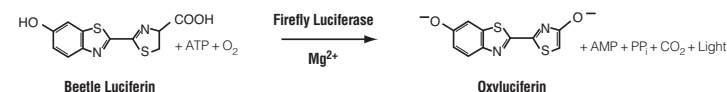

Figure 1. The luciferase reaction. Mono-oxygenation of luciferin is catalyzed by luciferase in the presence of Mg²⁺, ATP and molecular oxygen.
Firefly luciferase is a 61kDa monomer that catalyzes the mono-oxygenation of beetle luciferin (Figure 1). Beetle luciferin is a relatively stable molecule found only in luminous beetles (which include fireflies). The enzyme uses ATP as a cofactor, although most of the energy for photon production comes from molecular oxygen. The quantum yield is about 0.9, the highest of any known luminescent reaction (5). The gene encoding firefly luciferase (*luc*) is a cDNA clone that has been incorporated into a number of reporter vectors (Section 4).